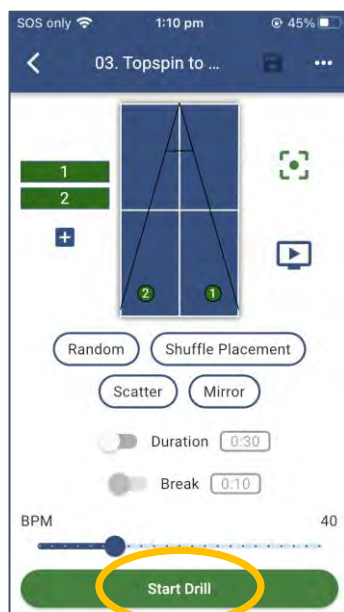

Figure 3-30
3. Touch either the name of the Drill or the ping pong table diagram for the Drill. This will take you to the Drill Edit screen (Figure 3-30).